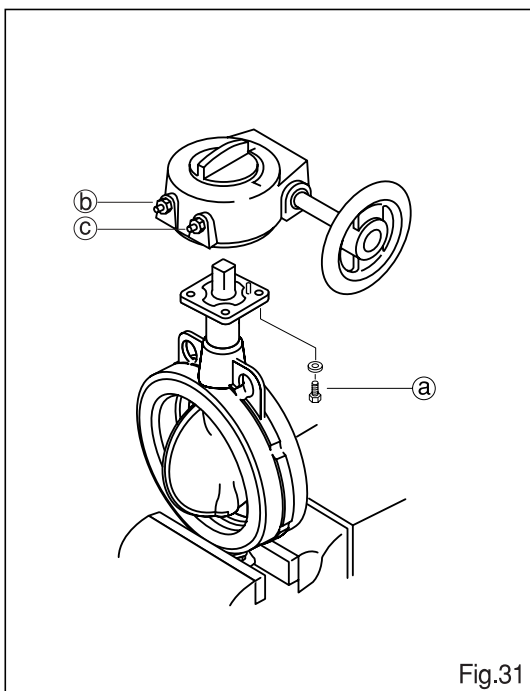

Fig.31
2. Gear operation type (Fig.31)